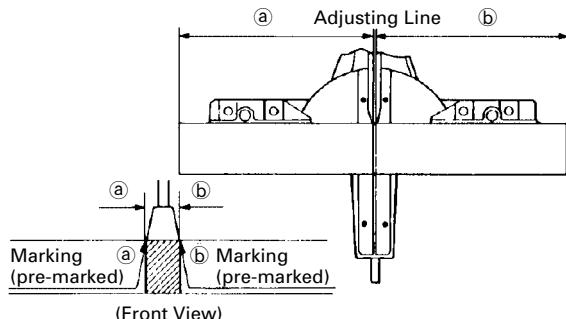

Fig. 19
- (1) As shown in Fig. 19 the width of the saw blade is the width of the cut. Therefore, slide the workpiece to the right (viewed from the operator's position) when length (b) is desired, or to the left when length (a) is desired.
- (2) Once the saw blade reaches maximum speed, push the handle down carefully until the saw blade approaches the workpiece.
- (3) Once the saw blade contacts the workpiece, push the handle down gradually to cut into the workpiece.
- (4) After cutting the workpiece to the desired depth, turn the power tool OFF and let the saw blade stop completely before raising the handle from the workpiece to return it to the full retract position.